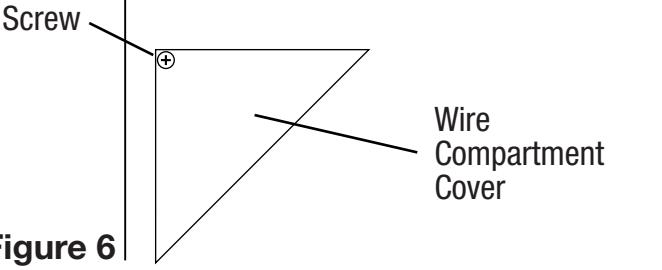

Figure 6
- 1a. **External Wire Compartment:** Remove the wire compartment cover screw and place cover in a secure place (**Figure 6**).